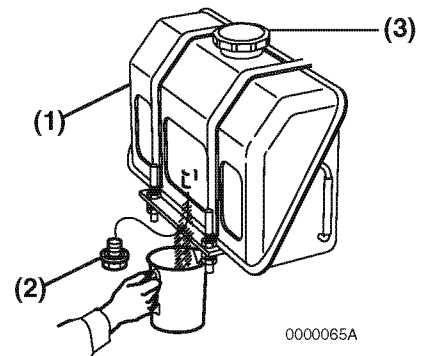

Figure 5-9
1. Position an approved container under the diesel fuel tank (**Figure 5-9, (1)**) to collect the contaminants.
2. Remove the fuel cap (**Figure 5-9, (3)**).
3. Remove the drain plug (**Figure 5-9, (2)**) of the fuel tank to drain the contaminants (water, dirt, etc.) from the bottom of the tank.